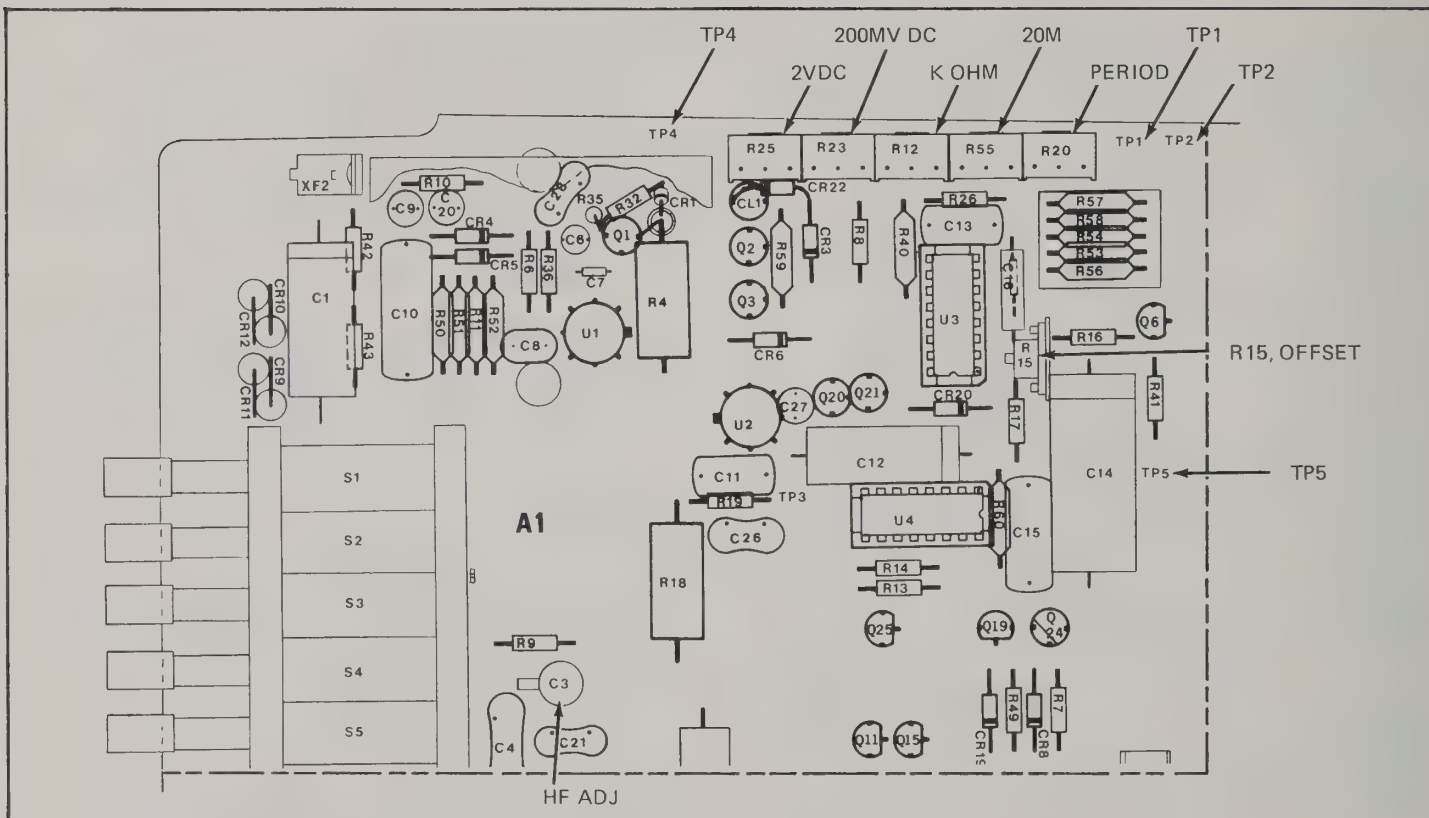

Figure 4-1. ADJUSTMENT AND TEST POINT LOCATIONS
- Connect a frequency counter, set for time interval measurement, between TP5 (see Figure 4-1) and COMMON (or TP4).
- e. Adjust R15 (for location, see Figure 4-1) for readout of 00.0, flashing  $\pm 00.1$  not more than 10 times in 10 seconds.
- b. Adjust R25 (for location, see Figure 4-1) for +190.0 on readout.
4-40. Refer to Figure 4-1 for the location of range adjustments. Table 4-3 lists the order of the adjustments and cardinal check points. Apply the inputs listed, adjust and check for in-limits indications.